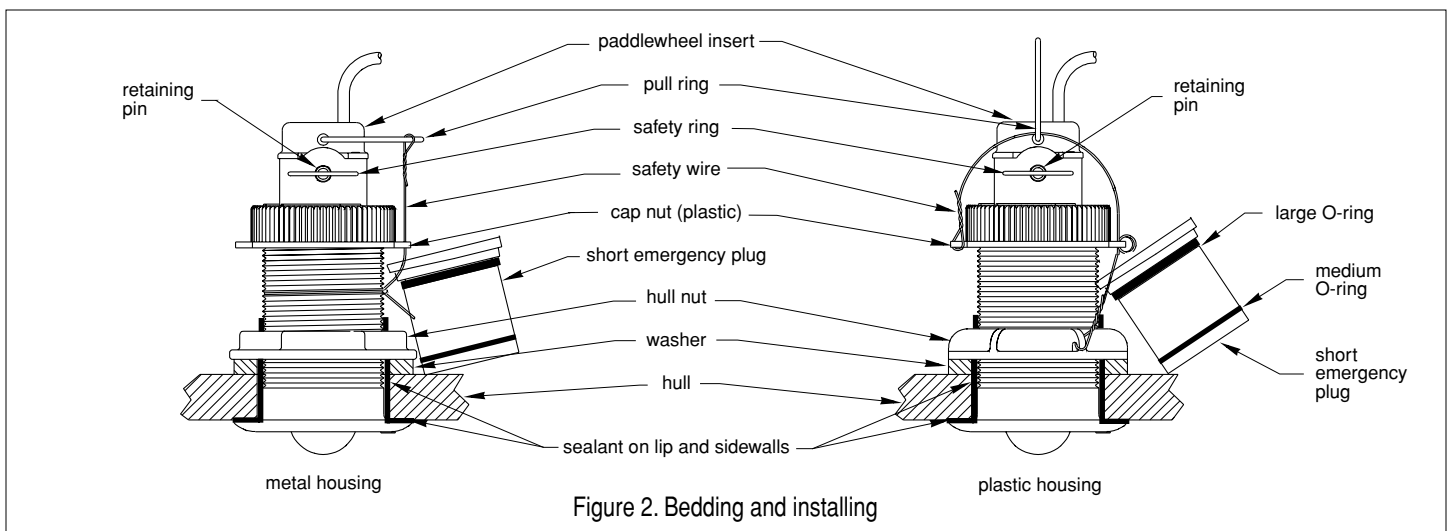

Figure 2. Bedding and installing
1. Remove one safety ring and the retaining pin from the sensor. Grasp the paddlewheel insert by the pull ring and pull slowly upward. Next, remove the cap nut, hull nut, and washer (see Figure 2).
1. From outside the hull, push the housing into the mounting hole using a twisting motion to squeeze out excess sealant (see Figure 2).
9. Insert the retaining pin and reattach the safety ring (see Figure 2).
Do not remove the cap nut (see Figure 2).
- With the arrows pointing forward toward the bow, insert the **long** blanking plug. Secure it with the retaining pin, safety rings, and safety wire (see Figure 2).
- Remove the safety wire from the cap nut. Remove the **short** emergency plug (see Figure 2). Inspect (replace if necessary) and lubricate the O-rings with silicone grease or petroleum jelly.
- After inspecting and lubricating the O-rings, reinsert the **long** blanking plug or paddlewheel insert and secure it with the retaining pin and safety rings. Thread the short emergency plug onto the safety wire and twist it in place for a watertight seal (see Figure 2).